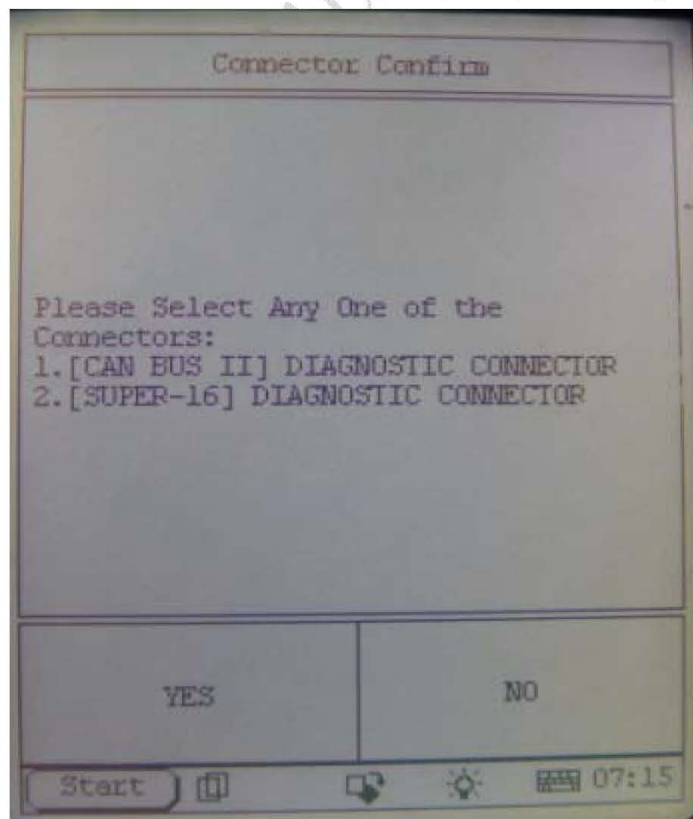

Figure 6
4). Select correct connector according to the prompt. See Figure 6.